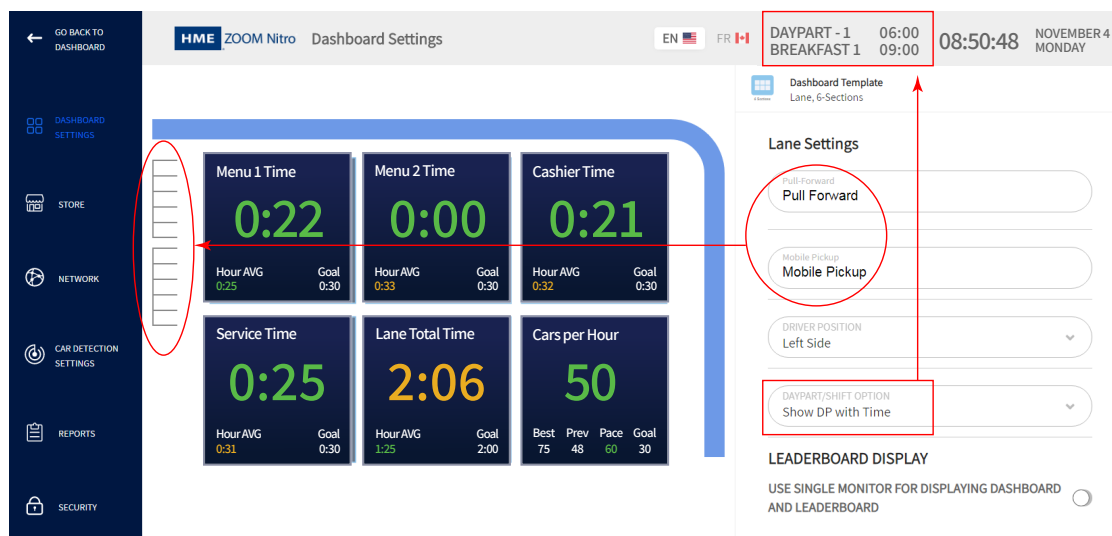

Fig. 3.4
<div>DAYPART/SHIFT OPTION</div> <div>Show DP with Time</div>	DAYPART/SHIFT OPTION: Different combinations of Daypart (DP), Shift, and Time can be selected here to be displayed at the top of your Dashboard screen (see Fig. 3.4).